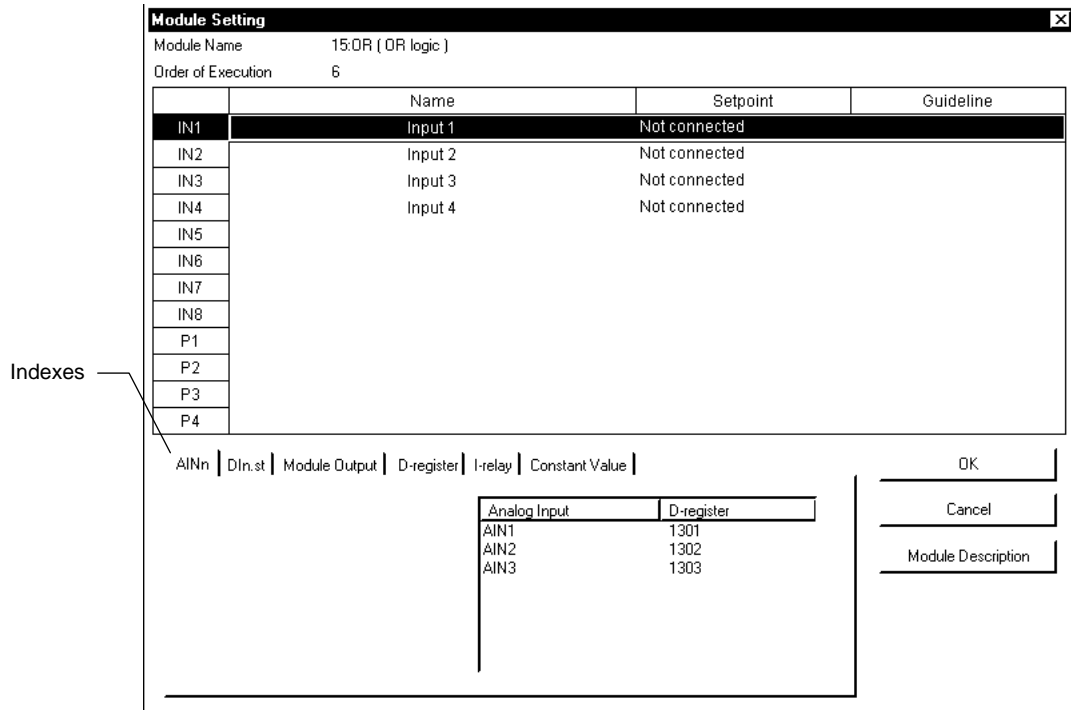

Figure 4.3.10 [Module Setting] Dialog Box
- The [Module Setting] dialog box (Figure 4.3.10) appears.